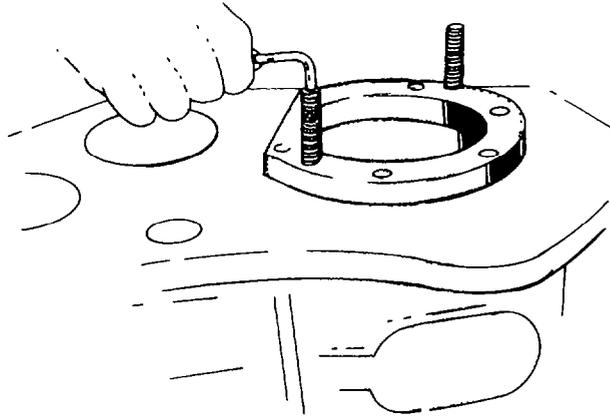

Fig. 240 — Removing Bearing Retainer
- ah. Turn the transfer case 180 degrees (front of case facing up). Remove the bolts from the drive shaft bearing retainer and install puller bolts. Tighten the puller bolts evenly and alternately to remove the bearing retainer and outer race from the case (see fig. 240).